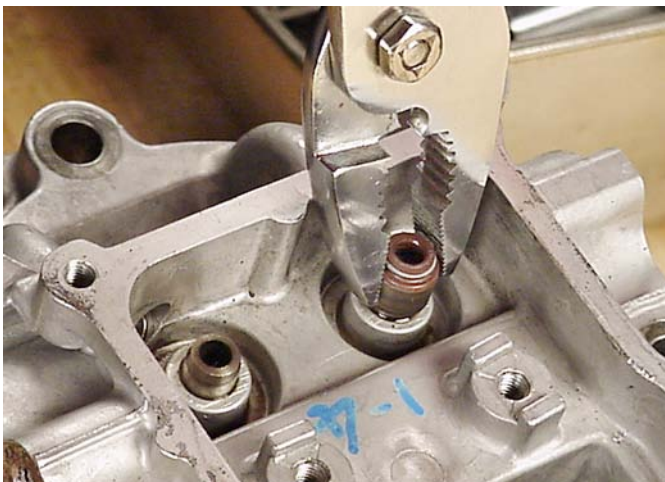

Fig. 81
3. Remove and discard valve stem seals, Fig. 81.